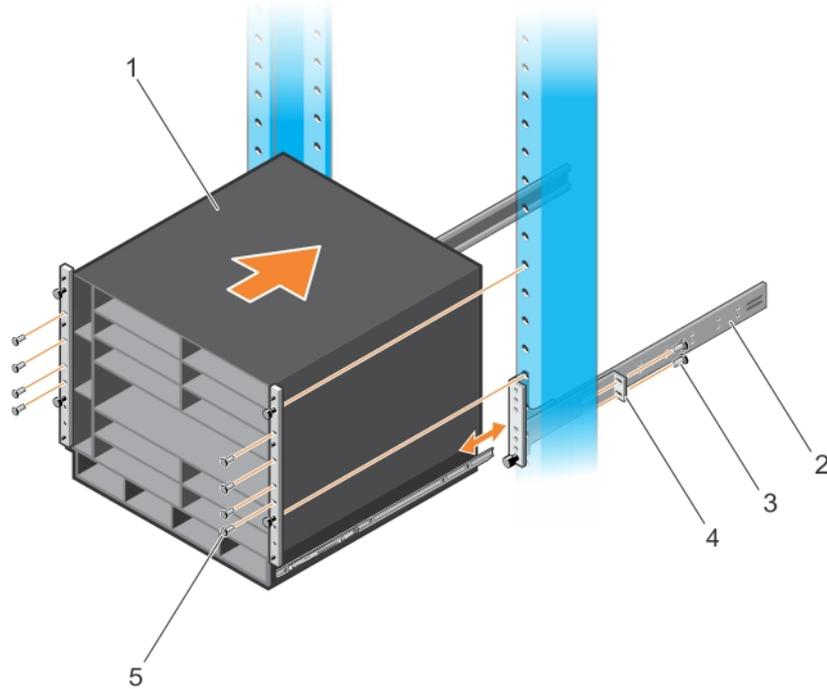

Figure 16. Installing the Chassis with ReadyRails in a Threaded-Hole Rack
- Lift the chassis and slide it into the rails installed in the rack (Figure 16). Tighten the two thumb screws and four rack screws (item 5 in Figure 16) on each flange to secure the chassis to the rack.
On a 2-post rack, slide each rail bracket (item 4 in Figure 16) forward to the post. Tighten the two screws (item 3 in Figure 16) to secure the bracket to each post.